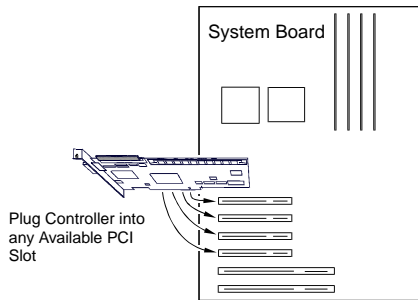

Figure 4. .Plugging the AcceleRAID 150 or 250 into a Standard PCI Slot
3. Plug the AcceleRAID 150 or 250 card into an available PCI slot (see Figure 4).